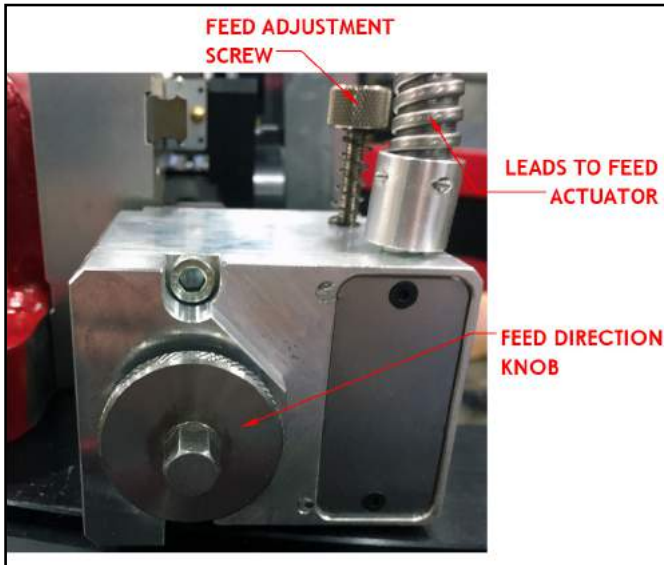

FIGURE 4-5. FEED ADJUSTMENT SCREW AND FEED DIRECTION KNOB
- Set the feed direction knob (shown in Figure 4-5 on page 24) to the desired direction.
1. Disengage the feed trippers (see Figure 4-5).